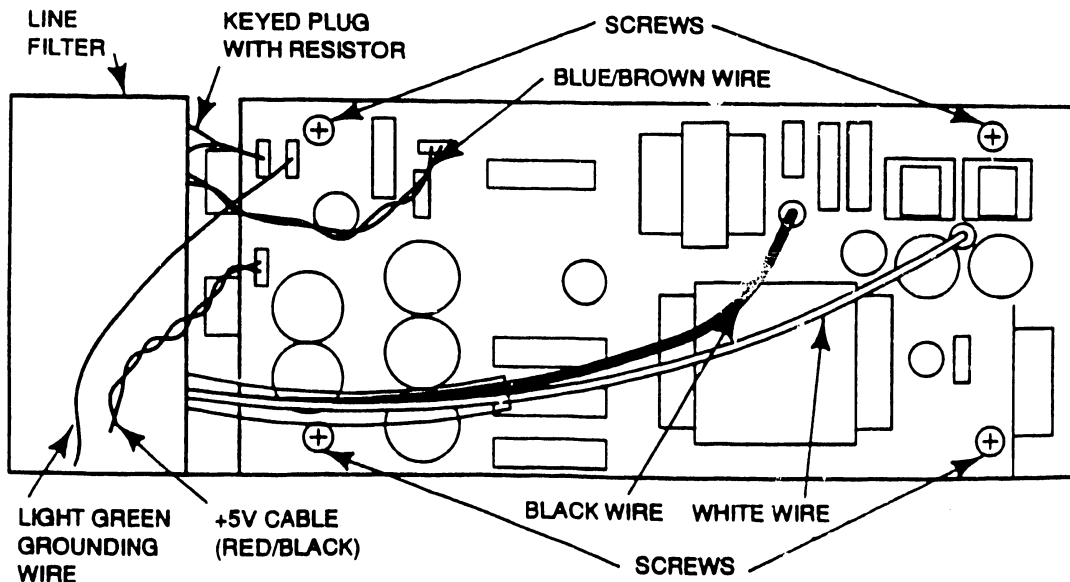

Figure 7 Power Supply Removal Procedure
3. Disconnect (pull off) white wire from ON/OFF switch to power supply PCB from pin labeled 230V. (Black and white wires are in clear plastic tubing from line filter). (Figure 7)
4. Disconnect single black wire from pin labeled 115V on power supply PCB. (Black and white wires are in clear plastic tubing from line filter). (Figure 7)